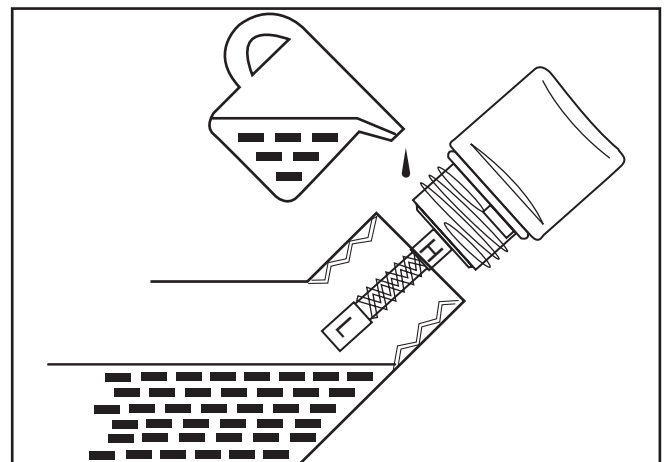

Figure 31 – Checking Oil Level
- Acceptable Oil Level – Oil is visible on the crosshatches between the H and L lines on the oil fill plug/dipstick (see Figure 31).